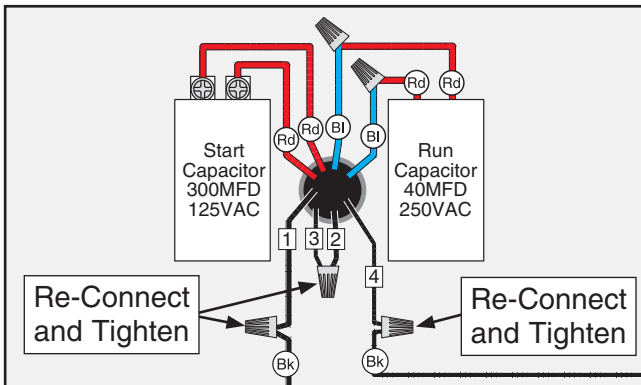

Figure 7. Motor wires repositioned for 220V.
- Connect the motor wires, as shown in **Figure 7**, with wire nuts. Once snug, use electrical tape to secure each wire nut to the wires it connects. This will reduce the likelihood of the wire nut loosening during motor operation.